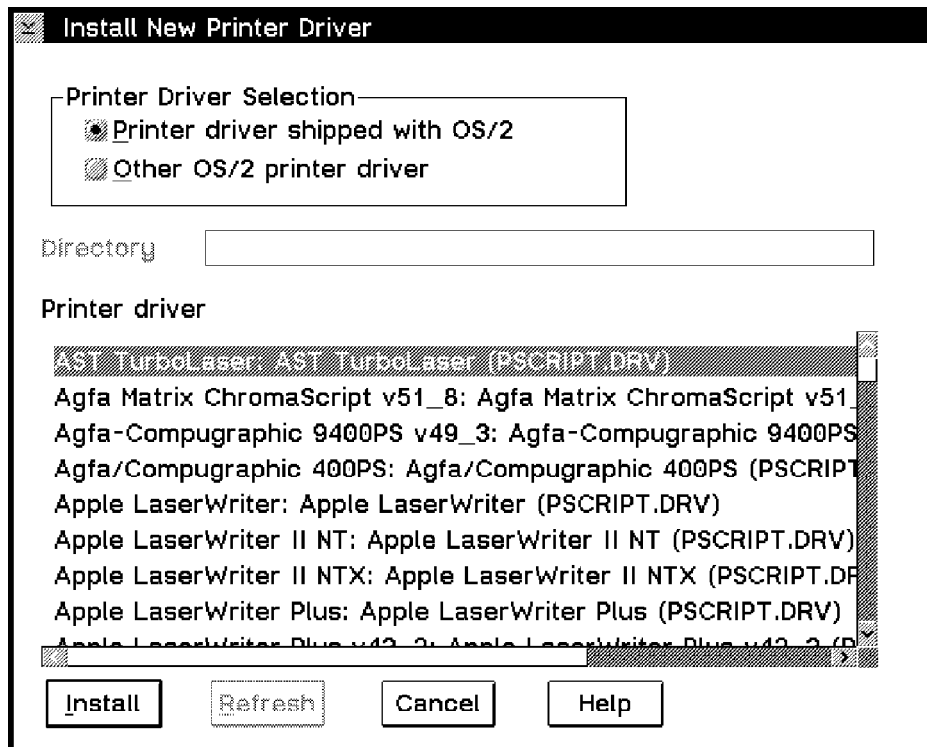

Figure 30. The Install New Printer Driver Dialog
6. Select the printer driver that corresponds to your printer model from the list displayed. If your printer driver is not listed, select **Install new printer driver**. Figure 30 on page 93 shows the window that will be displayed. Select your printer model and select **Install**.
- Select **Install**. The Install New Printer Driver dialog appears as seen in Figure 30 on page 93.
The list of supported printers shipped with OS/2 Warp is read from the file in the directory :OS2\INSTALL\PRDESC.LST. This list appears in the Install New Printer Driver dialog as seen in Figure 30.